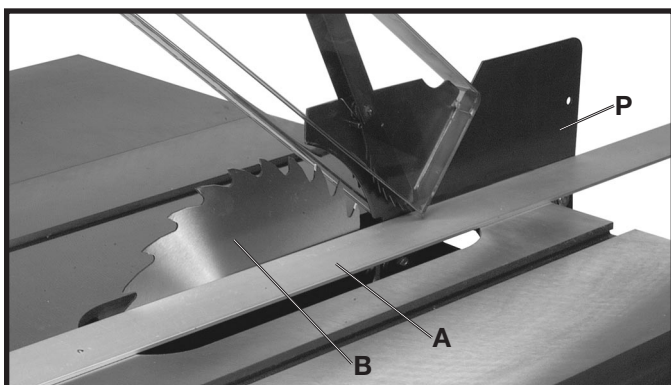
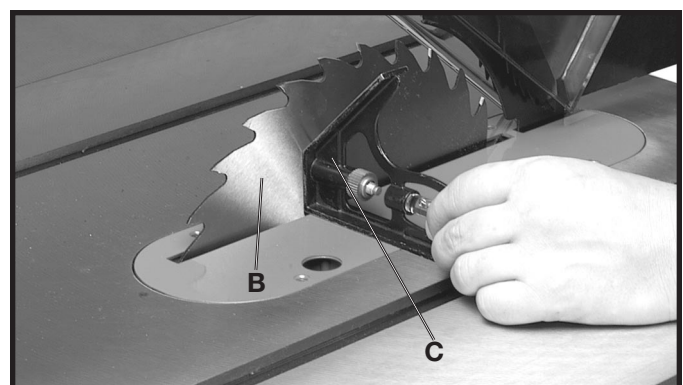
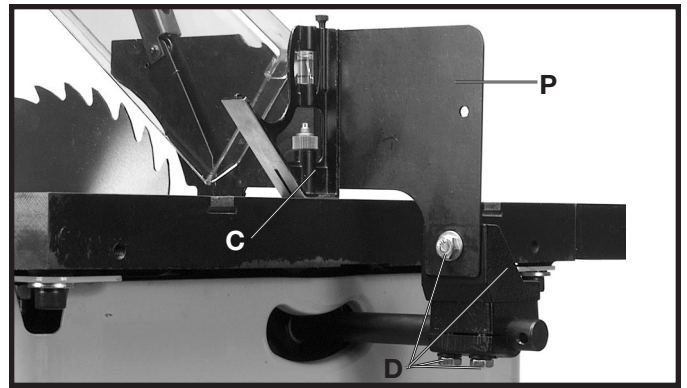

Fig. 27
Fig. 28
Fig. 29
12. Using a straight edge (A) Fig. 27, make certain the splitter (P) is aligned with the saw blade (B). Using a square (C) Figs. 28 and 29, make certain saw blade (B) Fig. 28, and splitter (P) Fig. 29, are 90 degrees to the table surface. Once you are certain the splitter is aligned to the saw blade and table, tighten all splitter mounting hardware (D) Fig. 29 and recheck alignment.